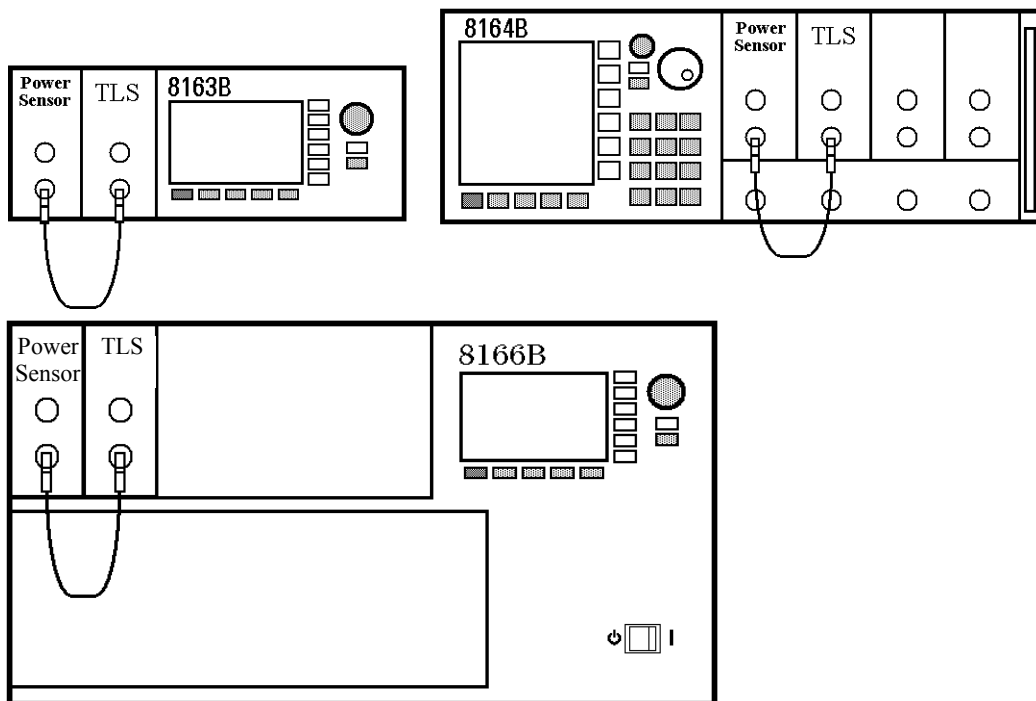

Figure 26 Connecting the Instrument for the Sample Session
- 3 Connect the output of the Laser Source to the input of the Power Sensor module, as shown in Figure 26 on page -59. You must connect the correct fiber end connector for your Tunable Laser module: